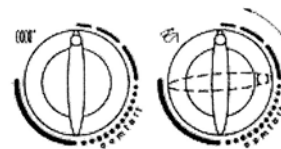

Fig. 28B
2. Starting in this position, quickly turn control knob 7 twice consecutively clockwise through about a ¼ turn as shown in figure 28B.